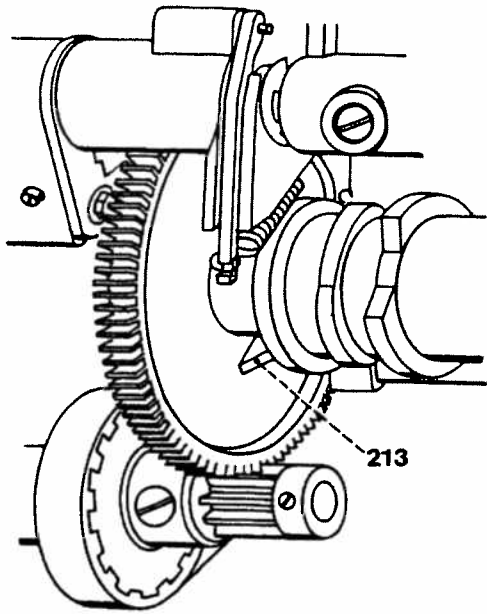

Fig. 20a
- Turn the handwheel until rib 213 is in the position indicated in fig. 20a.